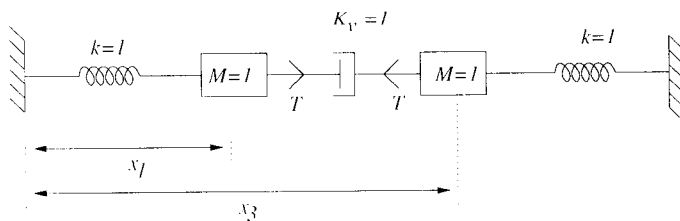

Figure 2
2. Consider the mass spring system of Figure 2. Two unit masses are attached, at one end, to rigid supports via springs, each with unit spring constant. They are attached to each other by a dashpot, with unit gain, *i.e.* the tension T across the dashpot is related to the relative velocity v of the masses away from each other, according to